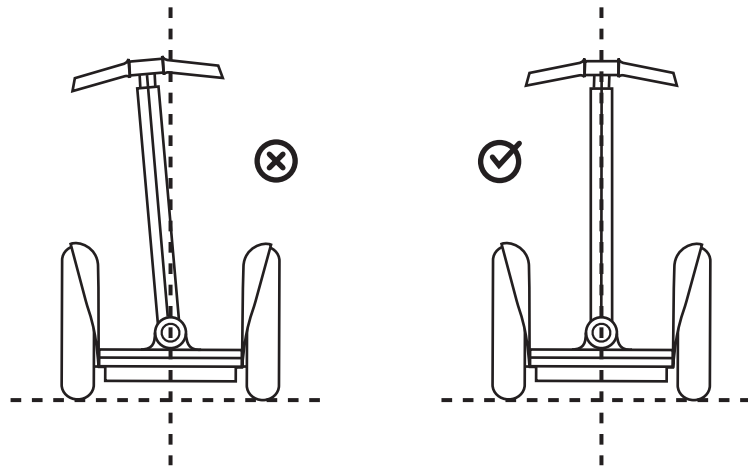

Figure 5. Center the LeanSteer Frame
8. Prior to tightening the fastener, visually check that the Handlebar is straight and centered. If it is not straight and centered, adjust the LeanSteer Frame to straighten and center it. See Figure 5.